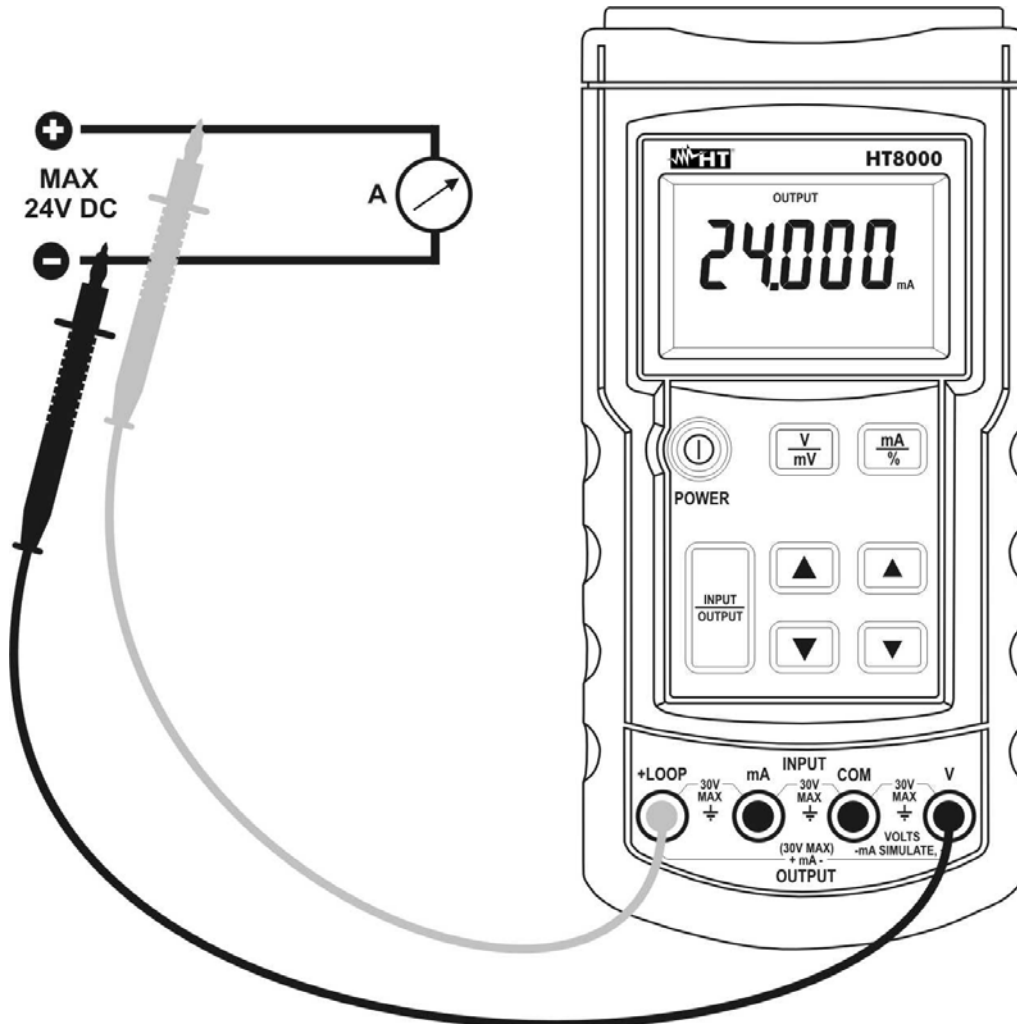

Fig. 5: DC current generation
4. Connect the red and black test leads respectively to the positive and negative poles of the external device which should receive the power supply (see Fig. 5)
6. For the generation of a negative value of current connect the test leads in the opposite direction than shown in Fig. 5